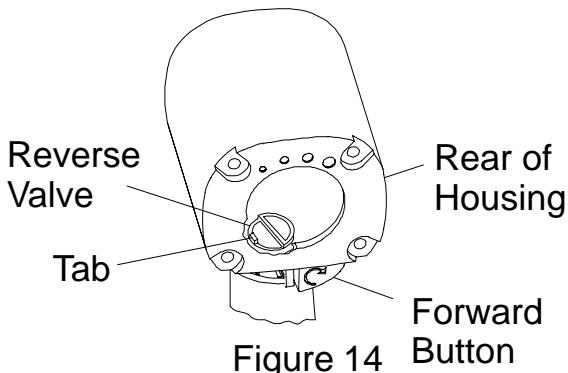

Figure 14
4. Install the Trigger O-ring (34) on the Trigger. Insert the Trigger Assembly in the front of the Housing.
6. Look through the Housing from the **rear**. If the tab on the Reverse Valve has been rotated to the **left**, install the **right** Button in the Housing. When one Button has been installed, push the Button in. This will rotate the' Reverse Valve so that the other Button can be installed. See Figure 14.